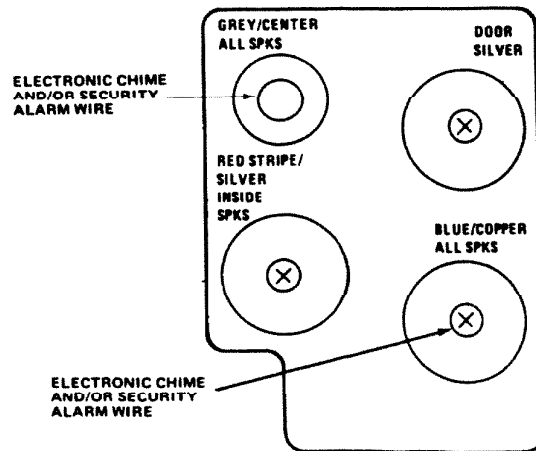

FIGURE 14
1. Connect **IW-2 (22/2, twisted pair)** from electronic chime to binding post marked **GREY/CENTER** and to terminal screw marked **BLUE/COPPER**. See Figure 14.
2. Connect **IW-2 (22/2, twisted pair)** from Intruder/Fire Alarm Control Unit and/or electronic alarm horn to binding post marked **GREY/CENTER** and to terminal screw marked **BLUE/COPPER**. See Figure 14.